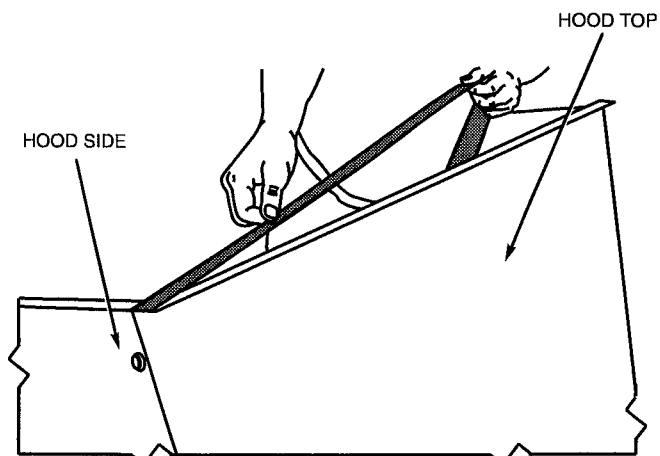

Fig. 17 — Adding Seal Strip to Hood Top Mounting Flange
5. Apply black seal strip (provided) to hood top mounting flange. Seal strip of hood top mounting flange must press tightly against seal strip of hood side mounting flanges. See Fig. 17.